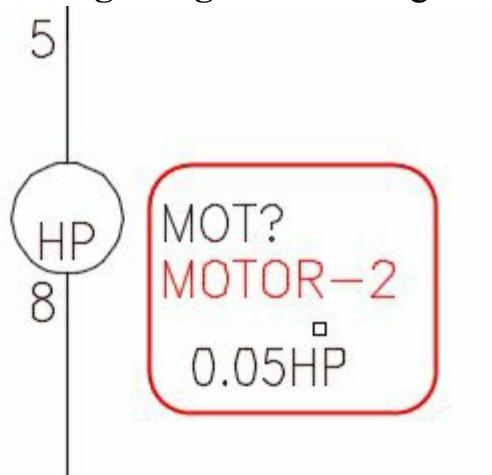
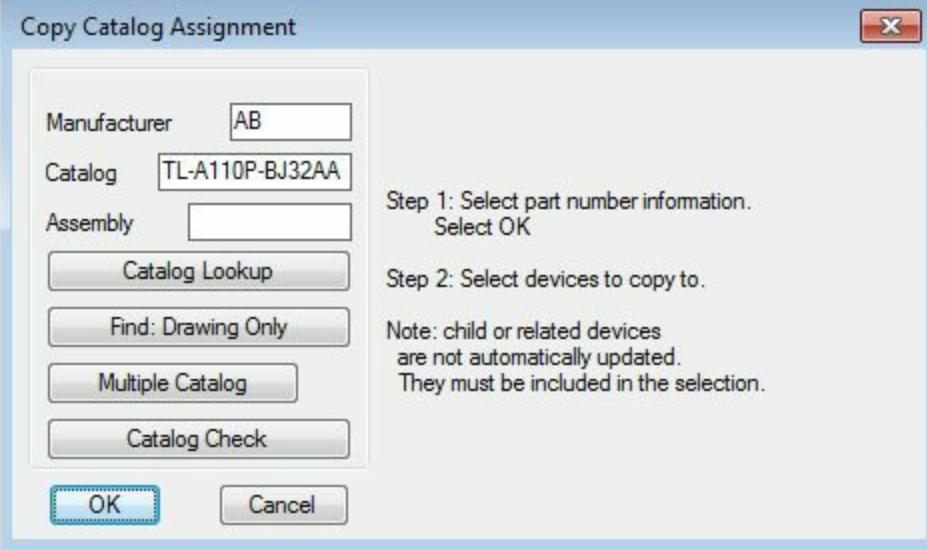

Figure-13. Component tag to be selected
Figure-14. Copy Catalog Assignment dialog box
- Click on the tag of the component from which you want to copy the meta data; refer to Figure-13. The **Copy Catalog Assignment** dialog box will be displayed; refer to Figure-14.